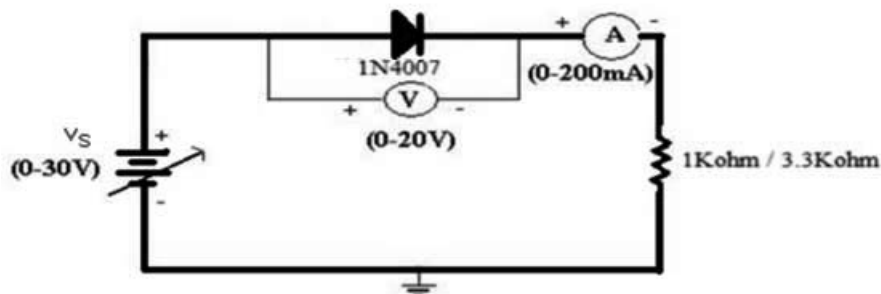

Figure 2: Forward bias condition
1. Connect the components as shown in Figure 2.